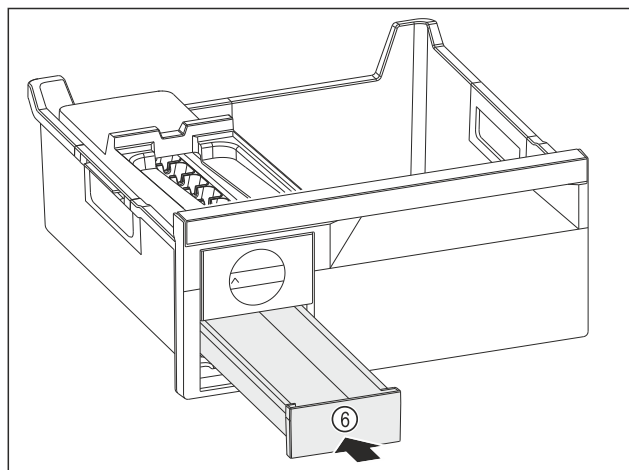

Fig. 93
- Insert the ice cube drawer Fig. 93 (6).